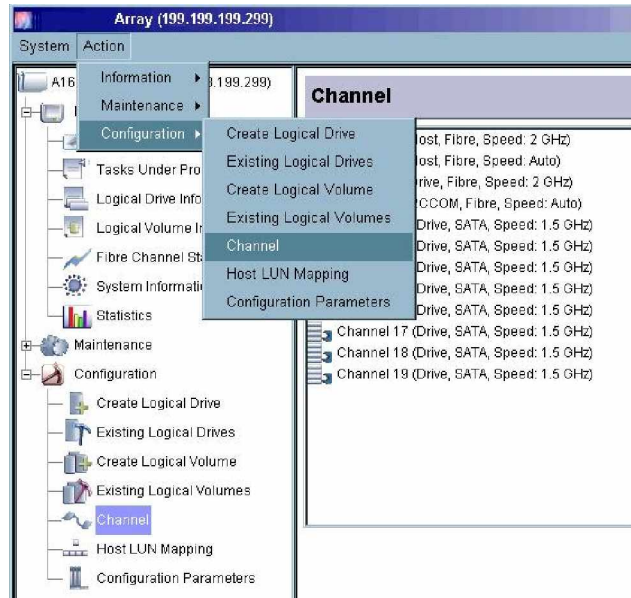

Figure 8-1: Accessing Channel Configuration Window
To be able to access the **Channel** window, use either the command from the “Action” menu or select the **Channel** icon from the navigation panel. (See *Figure 8-1*).
- Step 1.** Single-click under the **Channel** window to select a corresponding channel. Channel icons are displayed in the left-hand side panel of the configuration window. The Channel Settings configuration will appear as two separate tabbed panels on the right-hand side: “**Parameters**” and “**ID**.” (See *Figure 8-1*).